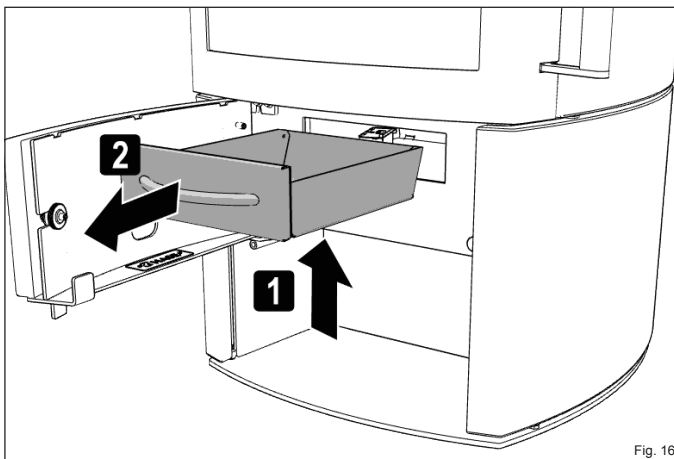

Fig. 16
- ▶ **Pull the ash drawer out of the opening by the handle (Fig. 16).**
- ▶ **Pull the ash drawer out of the opening by the cover (Fig. 16).**